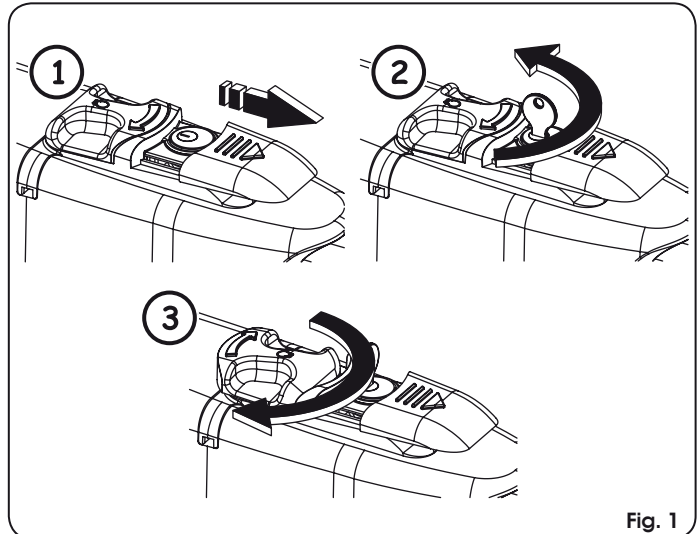

Fig. 1
2. Slide the protective cap, Fig. 1/1.
3. Insert the key and turn it 90°, Fig. 1/2.
tion indicated by the arrow on the release system, Fig. 1/3.